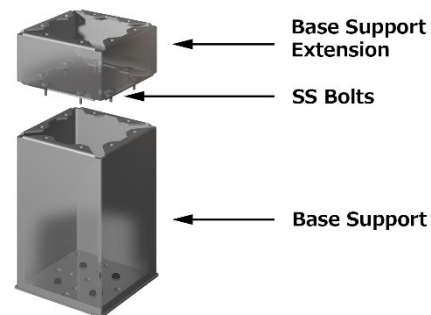

Figure 5
- **Taller Base Support:** Standard Base Support heights are 8", 10", 12" and 14"". These heights will accommodate most conditions; however, we also offer custom built heights if necessary. In the event that the Base Supports must be raised after they are installed, we offer 8" extensions that can be added in the field as illustrated in Figure 5.